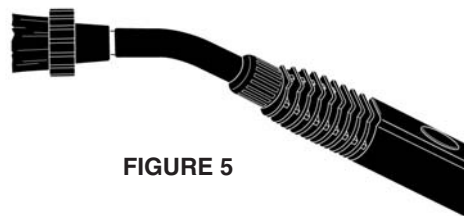

FIGURE 5
3. When Nylon Utility Brush is securely screwed on, you are ready to begin steaming (FIGURE 5). To remove Nylon Utility Brush when steaming tasks are complete, turn it in a counter-clockwise direction to loosen it, and then simply pull it off of Steam Jet Nozzle.